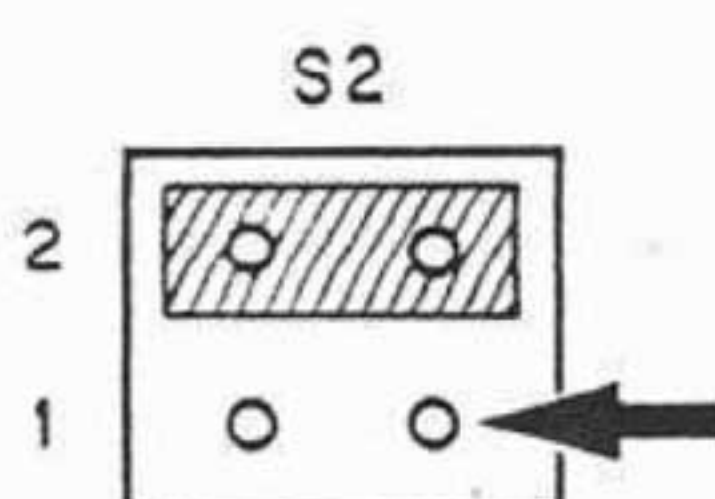

FIG. 26. OSCILLATOR CONNECTING POINT
2. Locate S2 switch on the control PCB and pull out the jumper plug to reinsert it into position 2, as shown in Fig. 26.